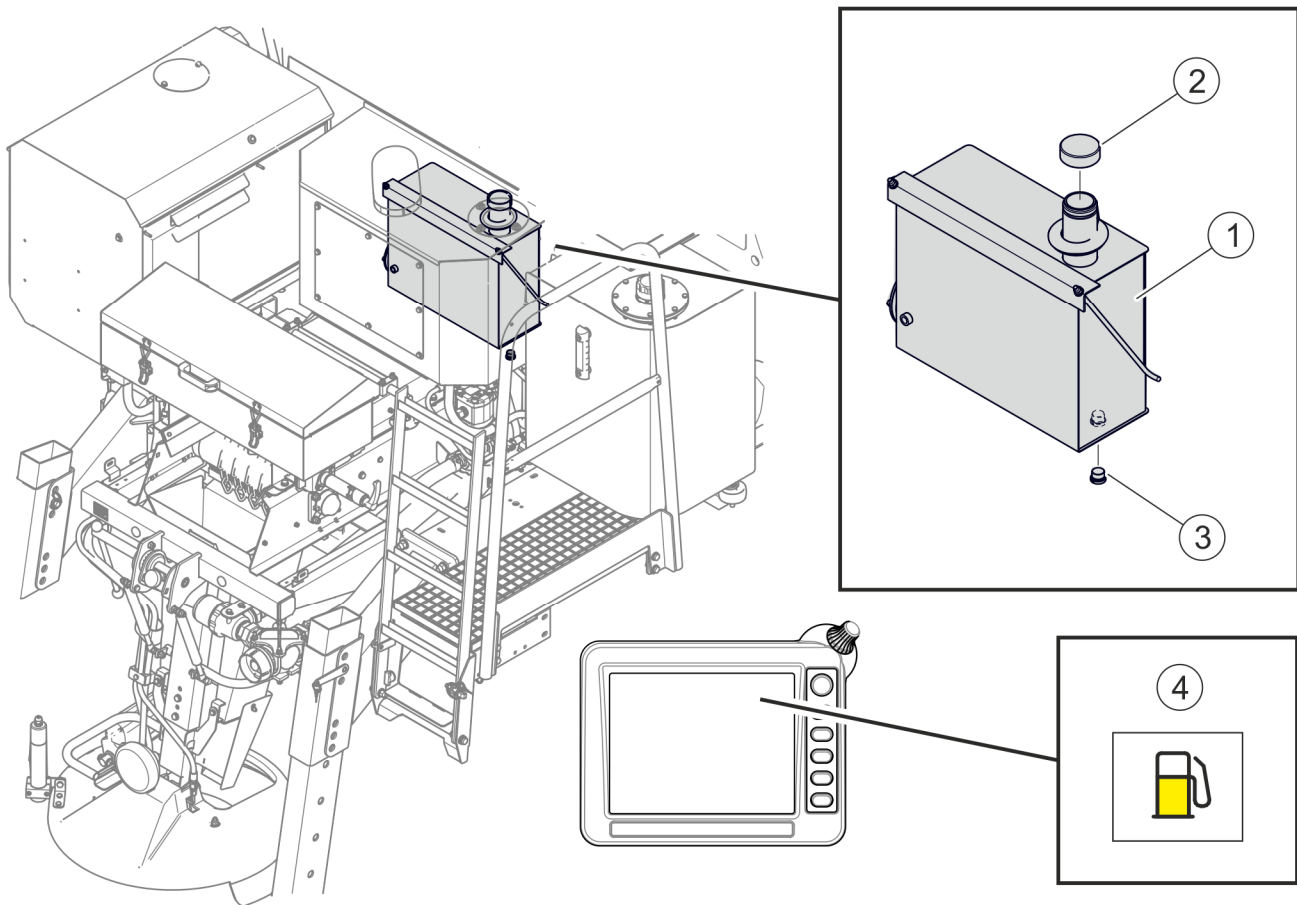

FIGURE 5.1 Checking fuel level
If the "Low fuel level" indicator (4) (FIGURE 5.1) lights up on the control panel display, add fuel to the fuel tank.